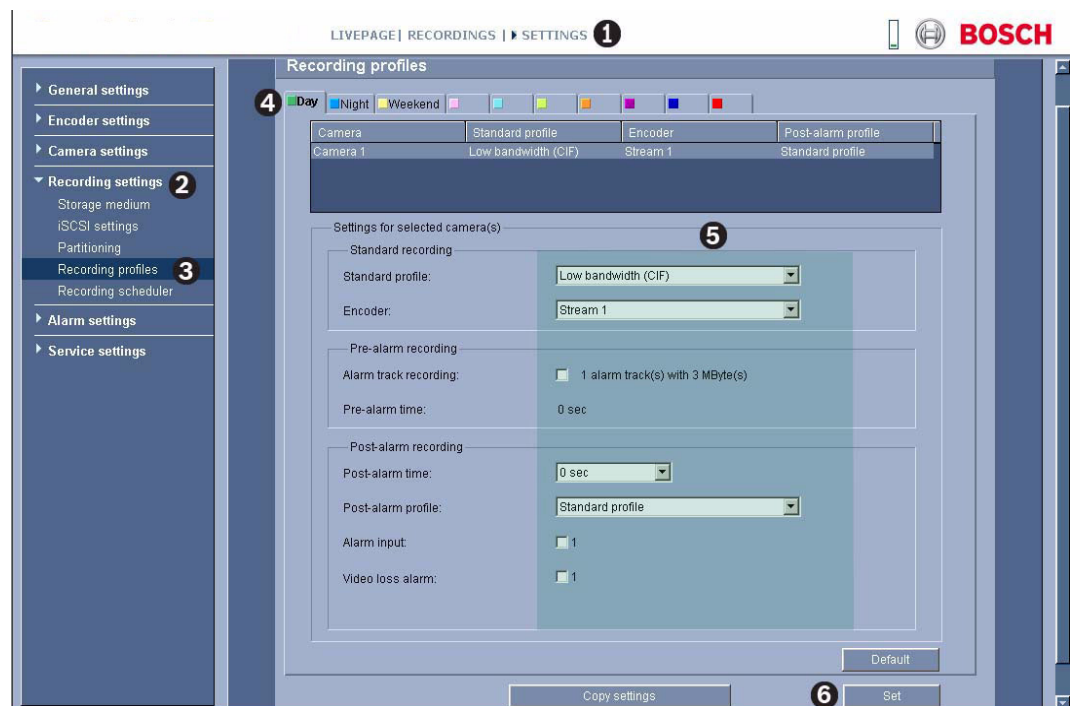

Figure 8.32 Recording Profiles
5. Assign the individual holidays to the recording profiles, as described in *Figure 8.32*.
2. Click the Recording Settings link, then click Recording Profiles. The IP AutoDome displays the Recording Profiles screen (see *Figure 8.32* above).